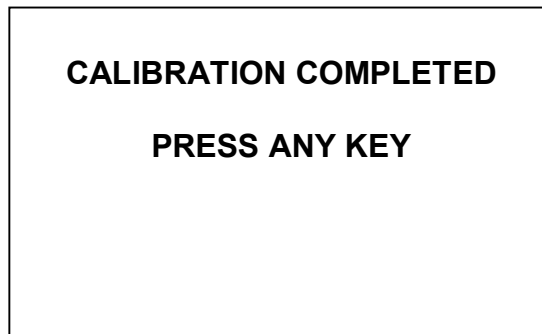

Fig. 2.5
- 4 Press the key . The display shown in Fig. 2.5 shall come up.